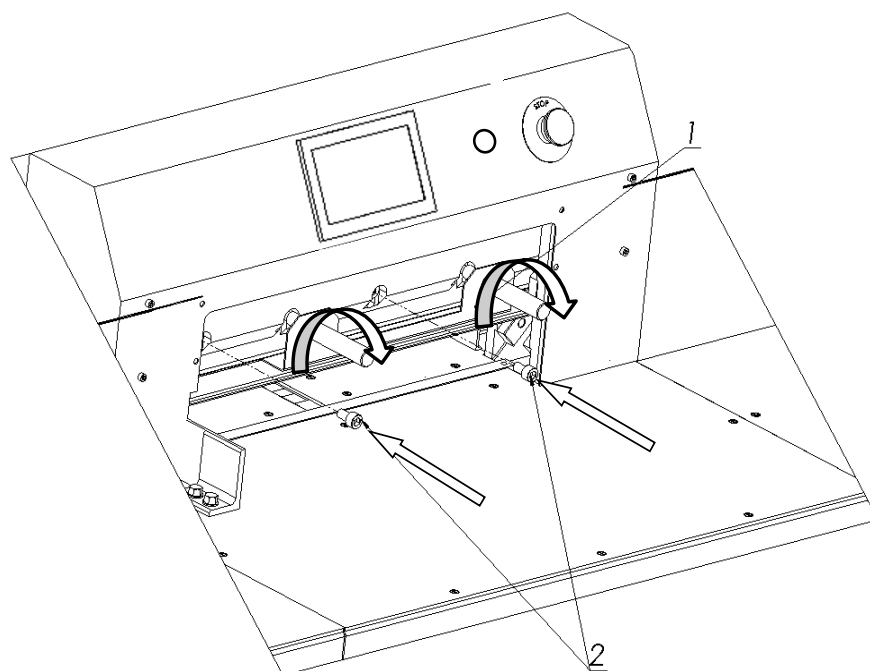
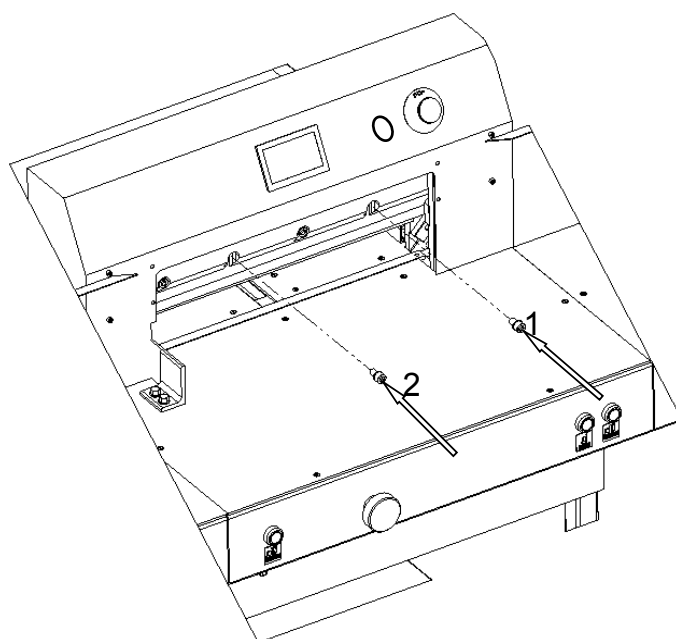

Figure 31.
Figure 32.
8.1.2.4 Pre-attach the knife to the cutter bar by turning both transporting handles 1 to the right (fig. 31).
8.1.2.5 Install the fastening screws 2 (fig. 31).
8.1.2.6 Unscrew both transport lugs 1 (figure 31) and replace them with the mounting screws 1 and 2 (fig. 32).
8.1.2.7 Slightly unscrew the first screw on the left side of the clamping screw 2 (Fig. 31), taking care that the screw head does not protrude above the knife beam sliding plane.
8.1.2.19. Firmly tighten the first screw on the left side of the knife. 2 (Fig. 31).